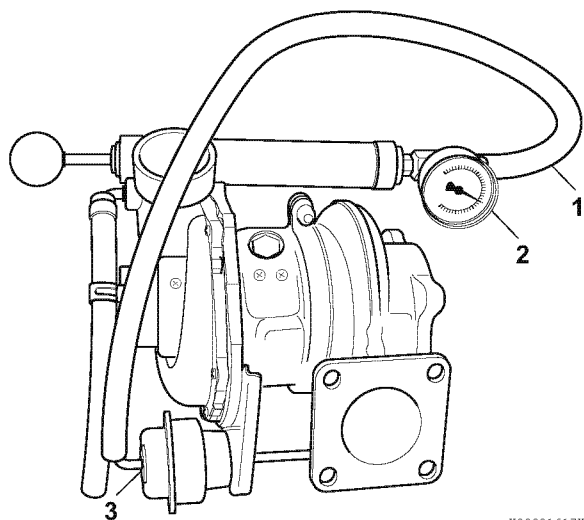

Figure 10-5
1. Connect a hand-operated air pump to the waste gate actuator pipe (1, **Figure 10-5**). The pump should be equipped with a 30 psi (0.21 MPa; 2.21 kgf/cm²) pressure gauge (2, **Figure 10-5**), and a pressure release valve to release any pressure pumped into the system. (Similar pumps are used to check for leaks in marine gear cases.)
2. Apply 17 psi (0.12 MPa; 1.2 kgf/cm²) to the waste gate actuator (3, **Figure 10-5**) circuit. Observe if the waste gate valve fully opens. If the waste gate valve does not fully open, replace the turbocharger or have it repaired by a qualified repair facility.